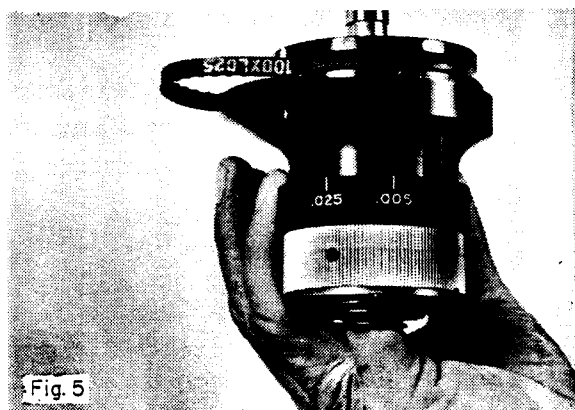

Fig. 5
4. To get to the drive belt (140), you now have to remove the Air Bias Housing Assembly (129), which is held by three 8-32 socket head screws (131). When removing the housing assembly, care should be taken not to drop the two steel balls (155). This may be done by placing your small finger into the opening of the housing assembly as shown in Fig. 5. This action will prevent the steel balls from falling out while you are removing the housing assembly from the Tracer Valve.